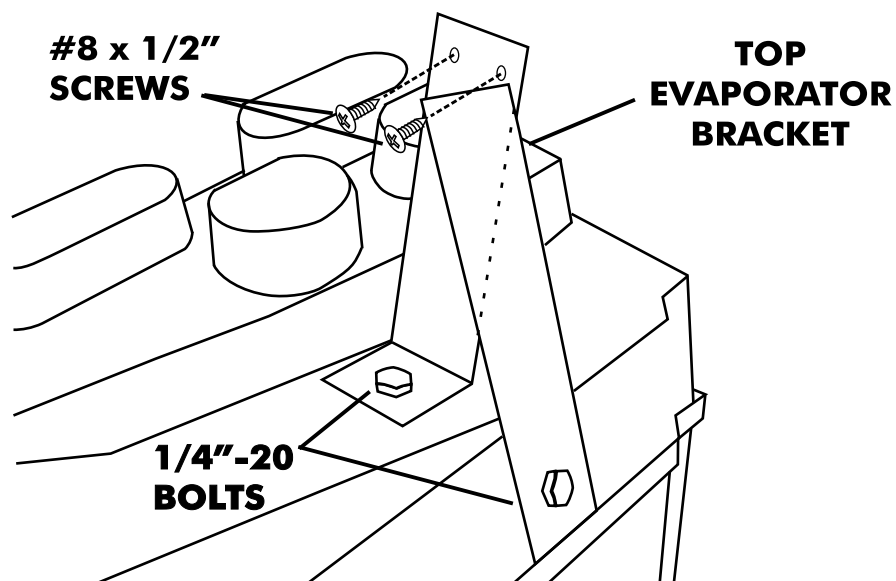

FIGURE 11
BEFORE INSTALLING EVAPORATOR UNIT, LOCATE HEATER HOSE CLAMPS, HEATER CONTROL VALVE, AND ALL FEEDER TUBES. CUT HEATER HOSE TO LENGTH AND ATTACH FEEDER TUBES TO EVAPORATOR, AS SHOWN IN FIGURE 7, PAGE 11. ALSO, LOCATE COWL VENT TEMPLATE ON FIGURE 13, PAGE 17. PLACE TEMPLATE ON COWL VENT FLANGE AND MARK HOLE CENTERS. SEE FIGURE 11, PAGE 13. DRILL THESE HOLES TO 1/8". THESE HOLES WILL BE USED TO SECURE TOP BRACKET ON EVAPORATOR CASE.
5. ATTACH THE TOP EVAPORATOR BRACKET TO THE COWL VENT FLANGE BY USING TWO #8 x 1/2" SCREWS IN THE PREVIOUSLY DRILLED HOLES. BOLT TO THE CASE WITH 2 EACH 1/4"-20 x 1/2" BOLTS, AS SHOWN IN FIGURE 11, PAGE 13.